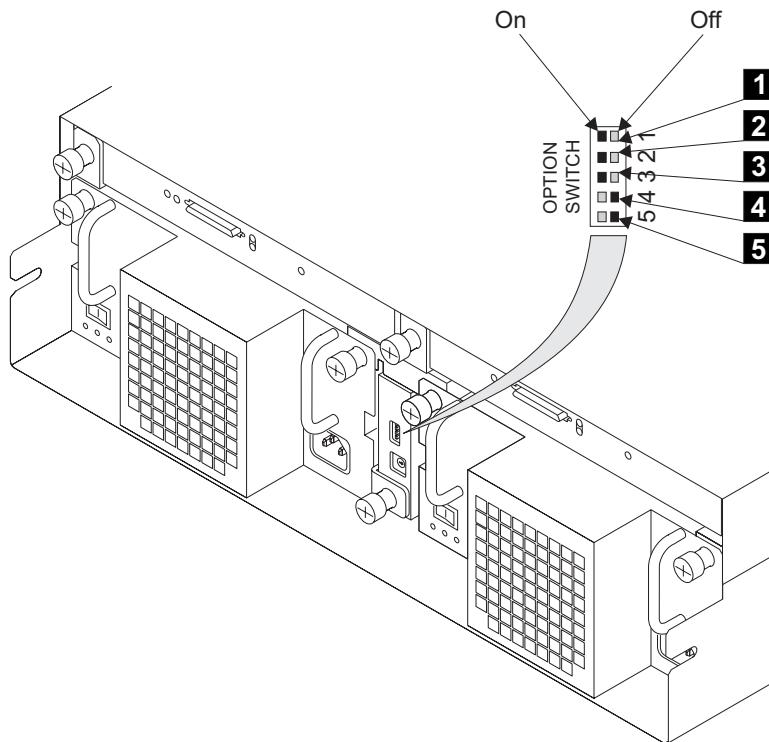

Figure 14. Option Switches
- Now look at the option switches. Refer to Figure 14.
9. Switch on the DC On/Standby switch **1** on each power supply. If option switch 1 (see Figure 14 on page 19) is on, the green DC PWR light **3** comes on. If option switch 1 (see Figure 14 on page 19) is off, the green DC PWR light **3** stays off. It will come on when the 2104 is connected to the using system.